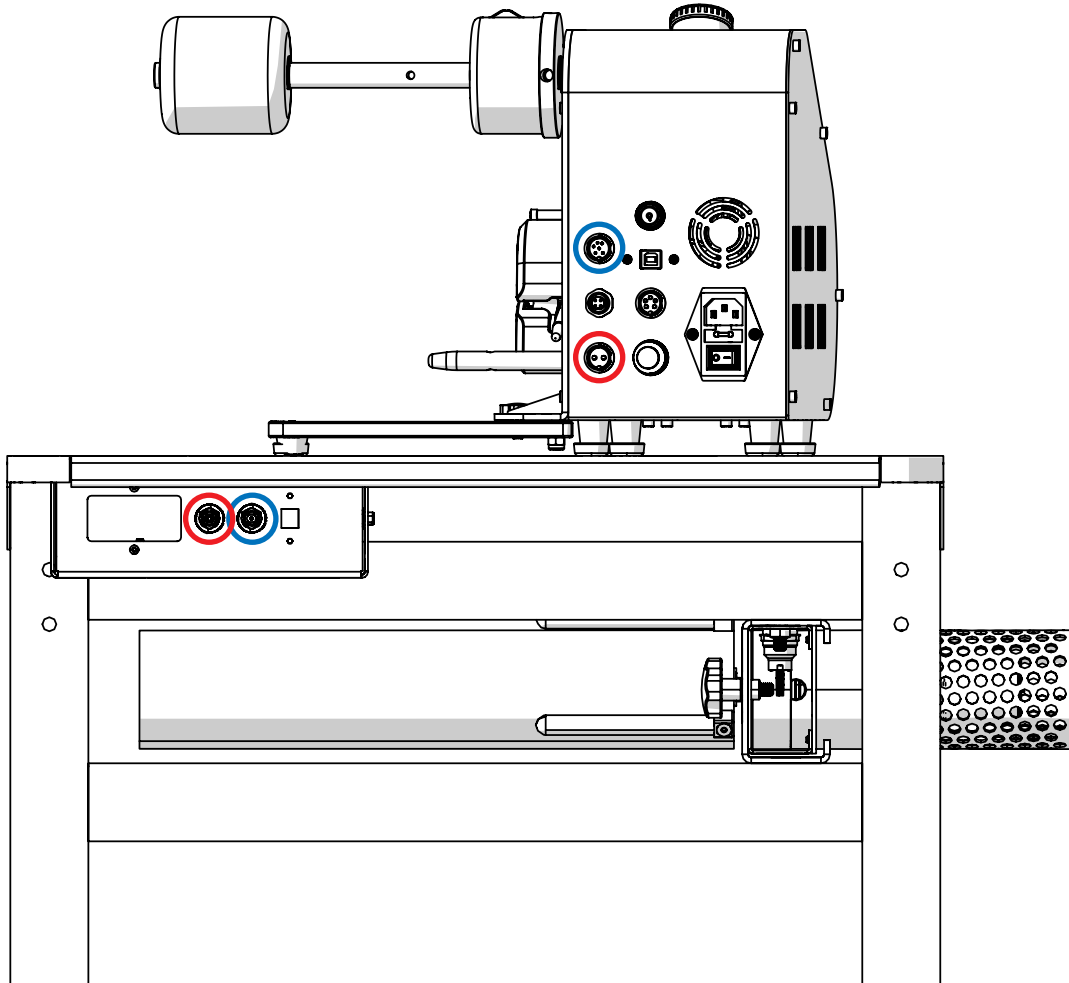

Figure 10: Bubble Winder Data Connection
- Film should peel off the roll over the top towards the rear of the **IPG AirSpace A3 Pro[®]** follow the Film Threading Path for details, Figure 10 should be used for Bubble-on-Demand (BoD).